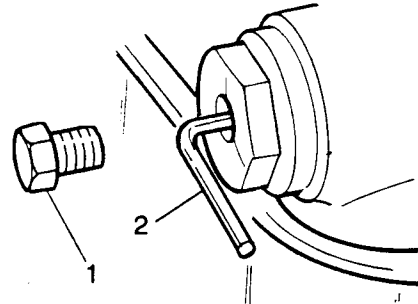
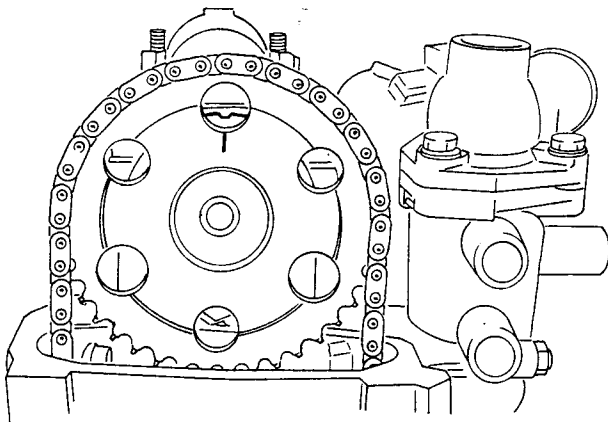

Fig B4.70
Fig B4.73
- (15) Refer to Fig B4.70. Remove the chain tensioner adaptor screw (1).
- (16) Insert a 3,17 mm allen key (2) and turn it 90° clockwise to retract the chain tensioner.
- (4) Refer to Fig B4.73. Fit the camshaft sprocket and locating pin. Check that the timing marks on the sprocket and cam cover align, then replace the bolt and tighten to 47 N.m.
- (5) Replace the chain over the sprocket.
- (6) Release the chain tensioner by turning the allen key (Fig B4.70) 90° counterclockwise.
- (7) Remove the allen key and replace the adaptor screw.
- (8) Refit the distributor cap and the spark plug leads.
- (9) Replace the cam cover, using a new gasket and secure with the eight flanged bolts and O-rings. Tighten the bolts to 8 N.m.